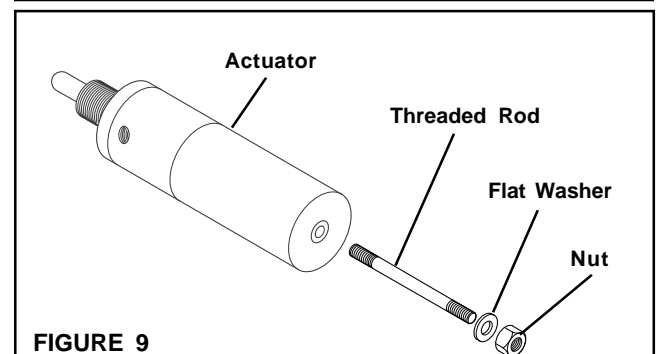

FIGURE 9
2. Using the Nexen Manual Release Kit (Product No. 933710) manually release the brake by inserting the Class 8.8 M10 x 1.5 x 5.5" Threaded Rod into the back of the Actuator; then, using a Flat Washer and Nut, tighten the Nut to release the brake (See Figure 9).